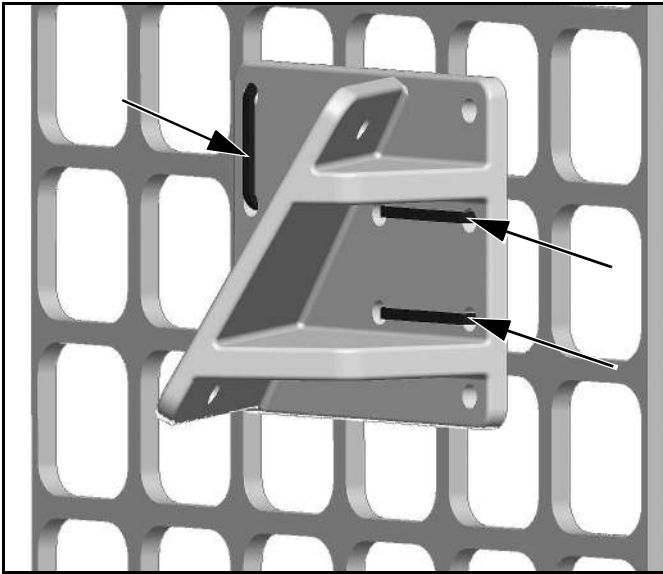

Figure 2-17
1. Install Plow Control Bracket onto skid steer window with three tie straps. (See Figure 2-17)